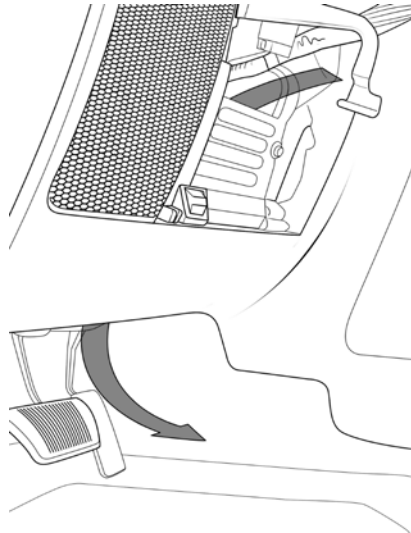

Figure 51
- e. Route long side of module wiring harness through instrument panel (fig 51). Be sure the harness is routed away from the pedals and secured.